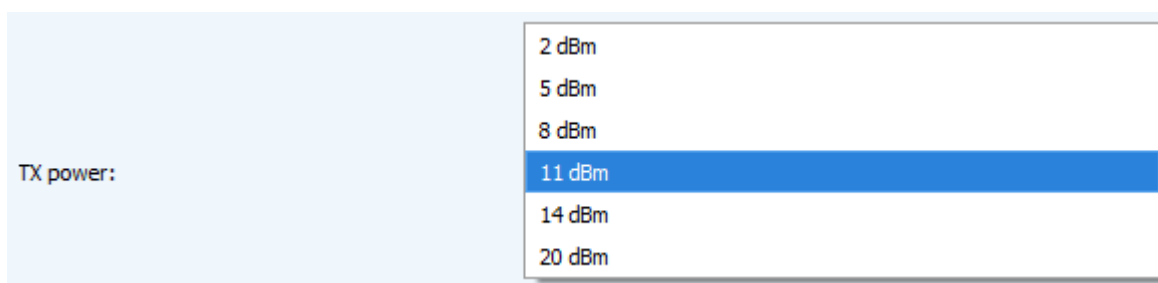

Figure 21 — Choice of the TX power
3.5.2.8 «TX power» (not displayed in the "Simple" mode) – the device RF transmitter power has adjusted to this value when sending packets to the LoRaWAN network (fig. 21). This option can be change by the network server.